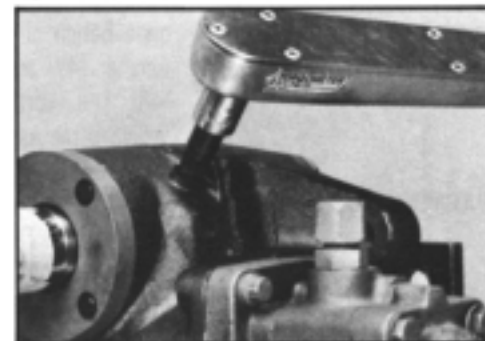

Figure 164
57. If bleed screw (55B) was removed from housing (55) reassemble and torque to 27-33 in. lbs. (3.1-3.7 N m). SEE FIGURE 164.
The above procedures should remove all the air from the steering system, unless the gear is mounted in an inverted position and is equipped with the manual bleed screw (55B) (See FIG. 164, Page 48). If this is so, refer to step 4.